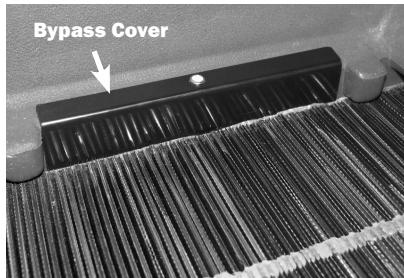

Figure 3
**Below 90°F** - When operating the Phoenix R175 below 90°F, the bypass cover must close the bypass holes, figure 3. This maximizes the amount of air that is dehumidified across the evaporator.